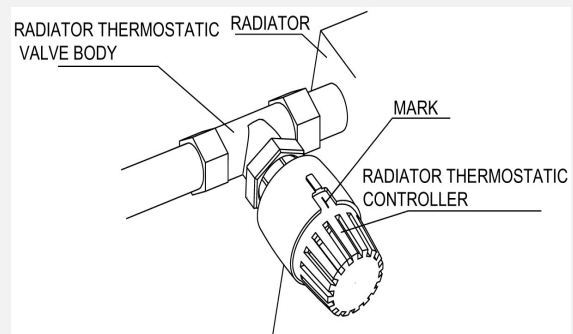

Fig. 1
4. When installations, let the hexagonal edge of the radiator valve aim at the internal rabbet in the controller (see Fig. 2), and keep the mark on the controller face up (see Fig. 1). Then tighten the connecting nut at this position.